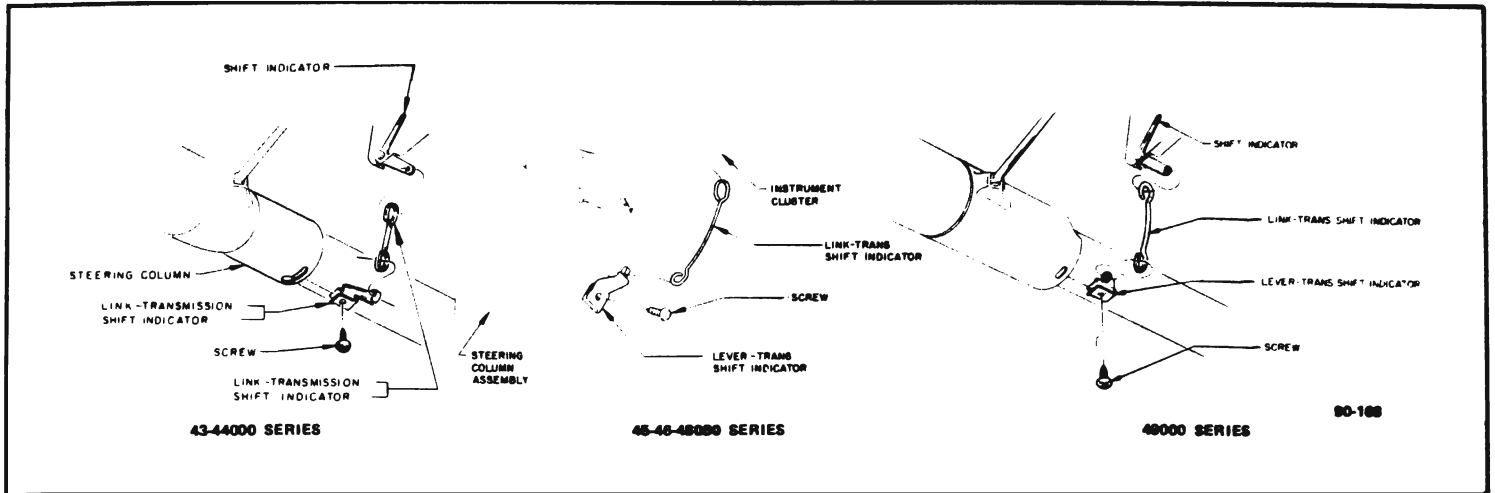

Figure 90-99 Removing Shift Indicator Link
4. Disconnect shift indicator link. See Figure 90-99.